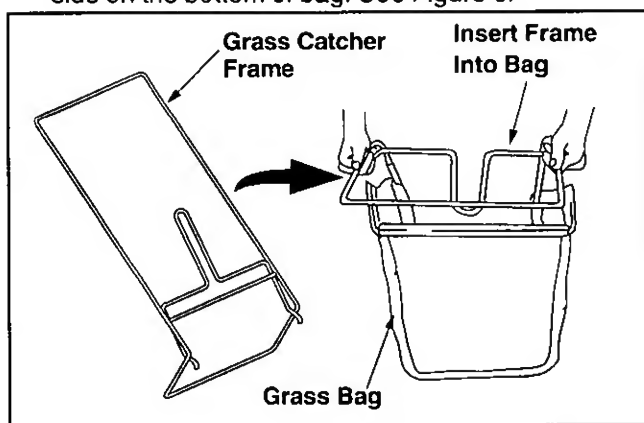

Figure 6
- Insert frame into grass bag with the black plastic side on the bottom of bag. See Figure 6.